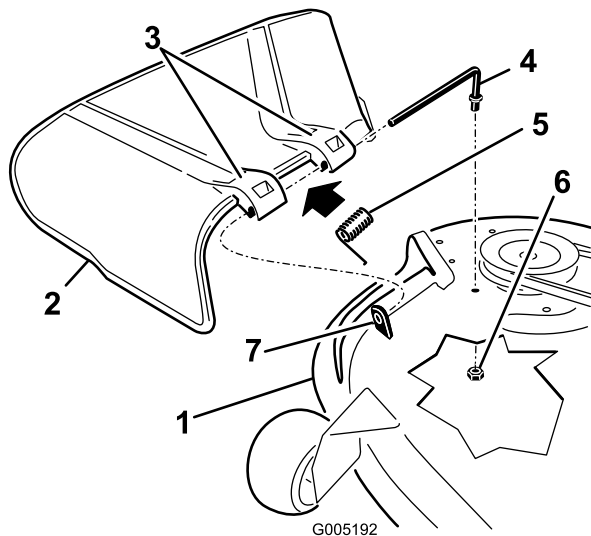

Figure 56
- Locate items shown in Figure 56.
2. Remove the nut (3/8 inch) from the rod under the mower (Figure 56).
3. Slide the rod out of the short stand-off, spring, and grass deflector (Figure 56). Remove the damaged or worn grass deflector.
4. Replace the grass deflector (Figure 56).
6. Place the spring on the rod, with end wires down, and between the grass deflector brackets. Slide rod through second grass deflector bracket (Figure 56).
7. Insert rod at front of grass deflector into short stand-off on deck. Secure rear end of rod into the mower with a nut (3/8 inch) (Figure 56).